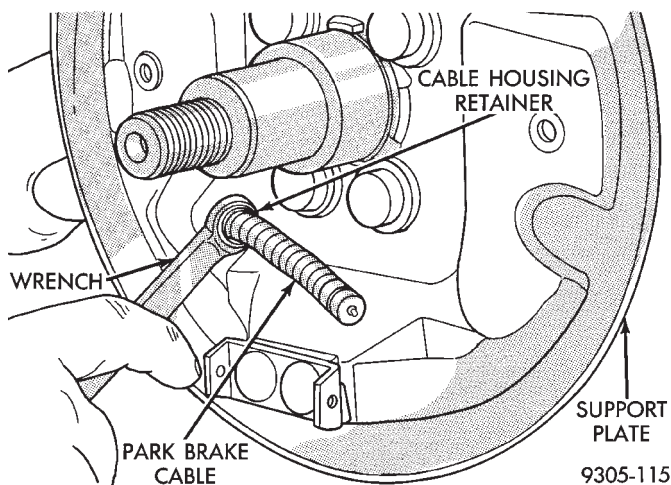

Fig. 129 Removing Park Brake Cable From Support Plate
(7) Position a 1/2 box wrench over the retainer on the end of the parking brake cable (Fig. 129). Compress cable housing retaining fingers and start housing out of support plate (Fig. 129). Remove wrench when retainer is free from the park brake cable mounting hole in the rear brake support plate. Alter-